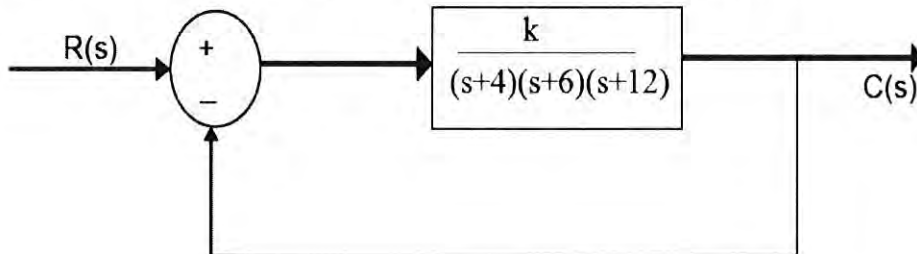

Figure 8: Uncompensated feedback control system
a) Figure 8 below shows an uncompensated unity feedback control system:
- i) For the uncompensated feedback system of Figure 8 operating at 15% overshoot with step input, using root locus method compute the parameters listed in Table 1. **(12 marks)**
Table 1: Parameters for uncompensated feedback system of Figure 8 at 15% overshoot
- ii) For the uncompensated feedback system of Figure 8, design a PD controller so that the system can operate at 15% overshoot with peak time that is two-third that of the uncompensated system. **(8 marks)**
- iii) For the uncompensated feedback system of Figure 8, design a PI controller so that the system can operate at 15% overshoot with zero steady-state error for a step input. **(5 marks)**